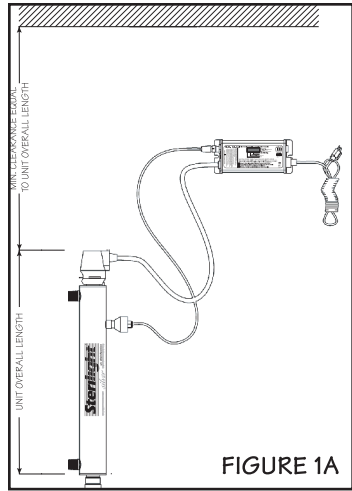

FIGURE 1A
2. Select a suitable location for the disinfection system and its related components. As it is recommended to install a ground fault protected circuit (GFCI), make sure that this is taken into consideration prior to any installation. The system can either be installed vertically (inlet port at the bottom) (Figure 1A), or horizontally (Figure 1B), however the vertical installation is the most preferred method. When selecting a mounting location, you must also leave enough space to allow for the removal of the UV lamp and/or quartz sleeve (typically leave a space equal to the size of the reactor chamber itself). (Note: Installation drawings show Silver “PLUS” system with UV sensor for representation purpose only)